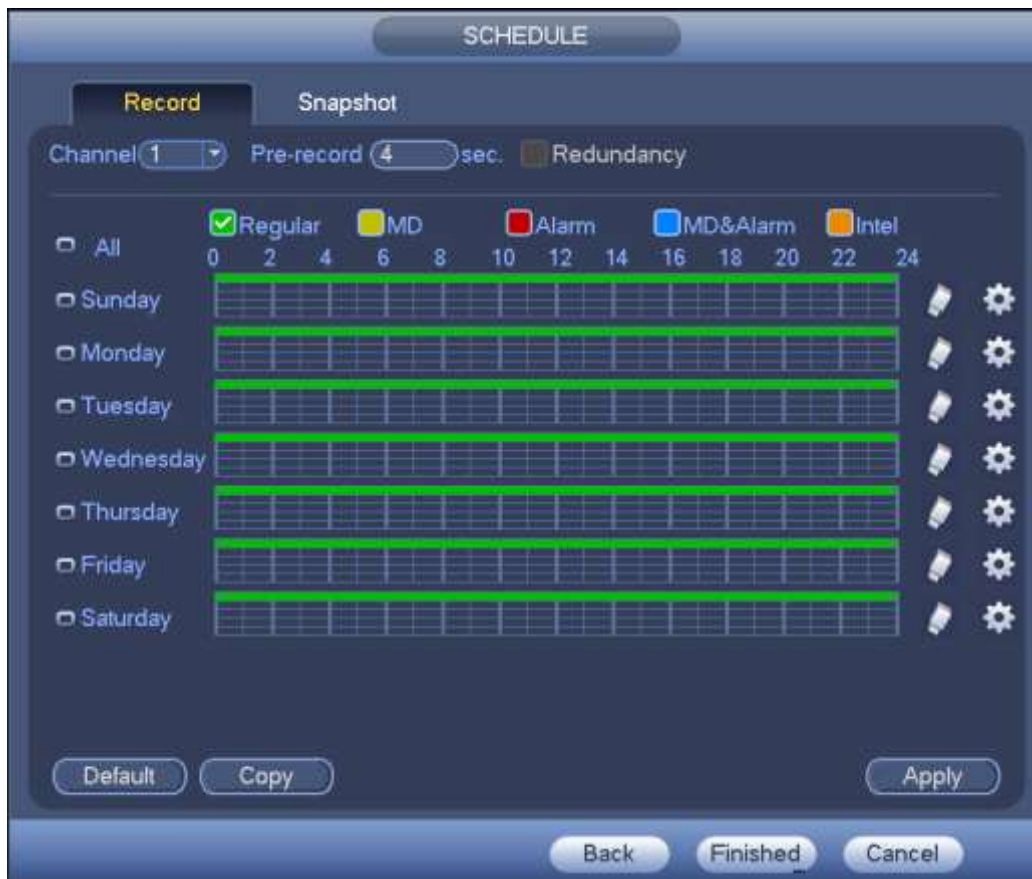

Figure 4-43
Step 1 Click Next button, enter Schedule interface. See Figure 4-43.